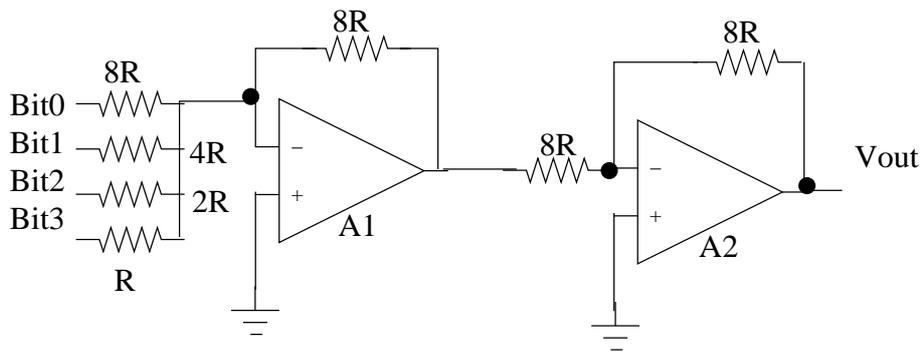

Figure 1: Digital to Analog converter
Refer to the figure 1 on page 1. This is one way of implementing a digital to analog converter. It uses operational amplifiers. Details of the ckt configuration are given below.
1. Circuit in figure 1 shows a 4 bit DAC using *weighted code technique*.